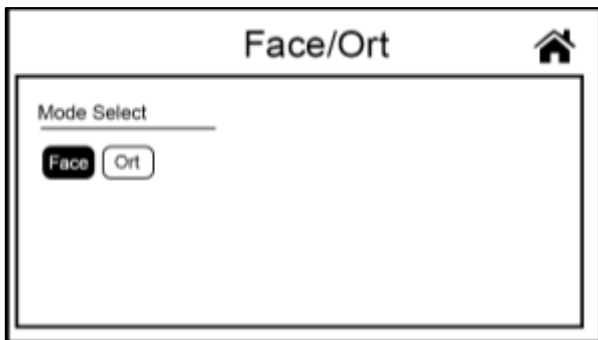
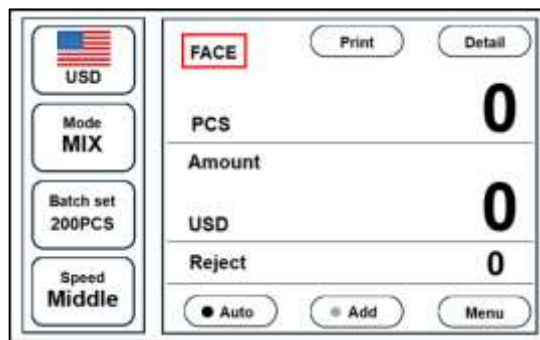

Figure 66
Figure 67
4) When clicking on the “Face” button, the bottom color of the button changes to blue, as in Figure 66. Touch the “” key on the upper right corner of the screen to return to the previous interface. The upper area of the main interface displays the “FACE” information, as shown in Figure 67. At this time, when the banknotes are counted, the machine will take the face of the first banknote as the standard, and the banknotes with different faces will be kicked into the reject pocket.